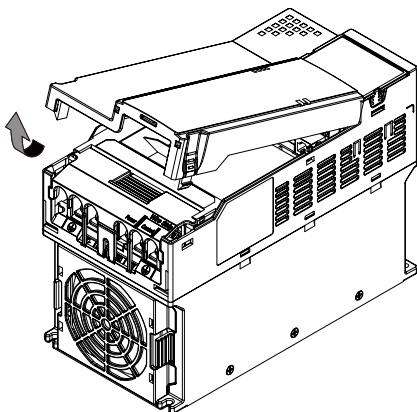

Figure 8-14
1. Turn off the power of the motor drive, and then remove the front cover, as shown in Figure 8-14.